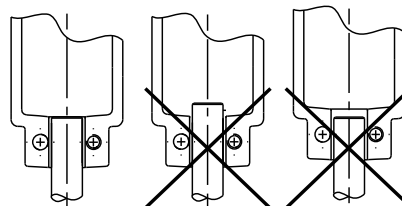

Fig. 11 Fitting the coupling
16. Turn motor and motor stool (pos. 1a) to the required terminal box position.
17. Lubricate and cross-tighten screws (pos. 28).
18. Fit the coupling on the shaft. The top of the pump shaft must be flush with the bottom of the clearance chamber in the coupling. See fig. 11.